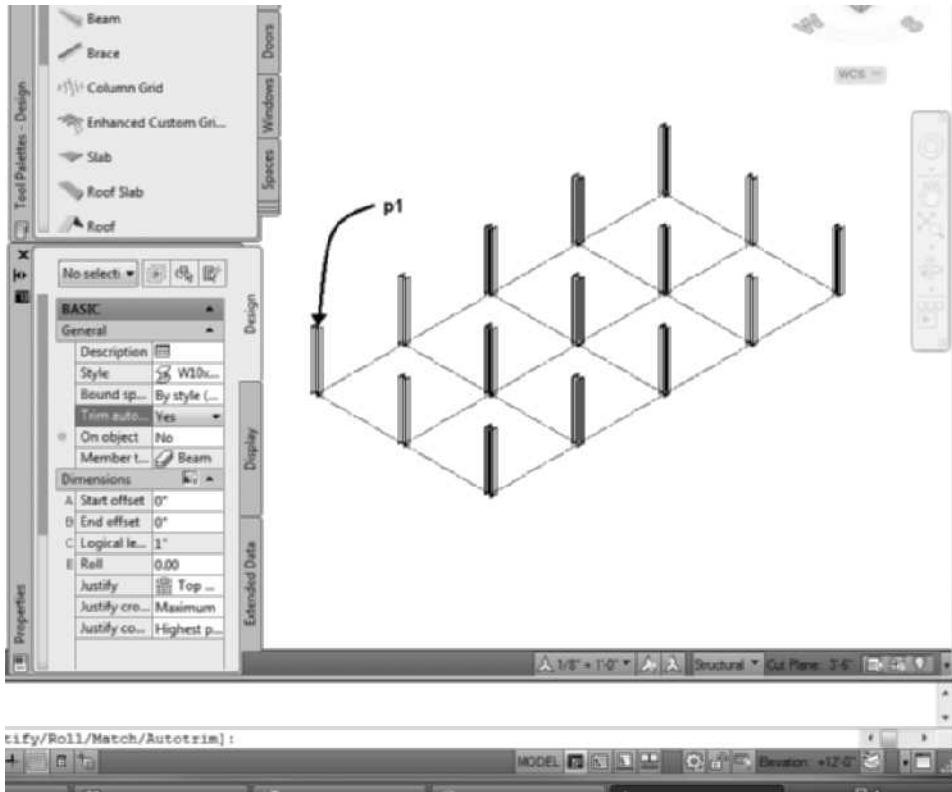

FIGURE 13.23 *Placing the start point of the beam*
14. Select the Home tab. Choose Design Tools to display the Design tool palette as shown in Figure 13.23.
15. Select the **Beam** tool from the Design palette. Edit the **Properties** palette for the Beam as follows: Style = **W10 × 77 [W310 × 52]**, Trim automatically = **Yes**, Start Offset = **0**, End Offset = **0**, Roll = **0**, Layout type = **Edge**, Justify = **Top Center**, Justify cross section = **Maximum**, and Justify components = **Highest Priority Only** as shown in Figure 13.23.
Start point or: (Select the node of the column at p1 as shown in Figure 13.23.)